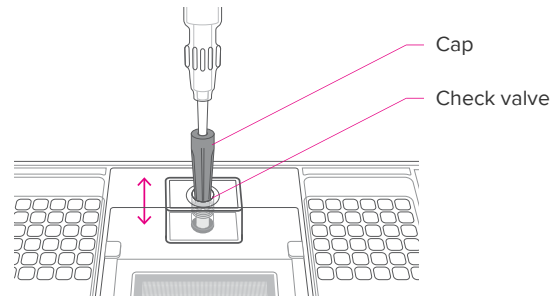

Figure 1. Actuating the check valve (96.96 IFC shown)
- b Use the syringe with the shipping cap in place to actuate both check valves of the IFC with gentle pressure. Ensure that the poppets can move freely up and down (Figure 1).